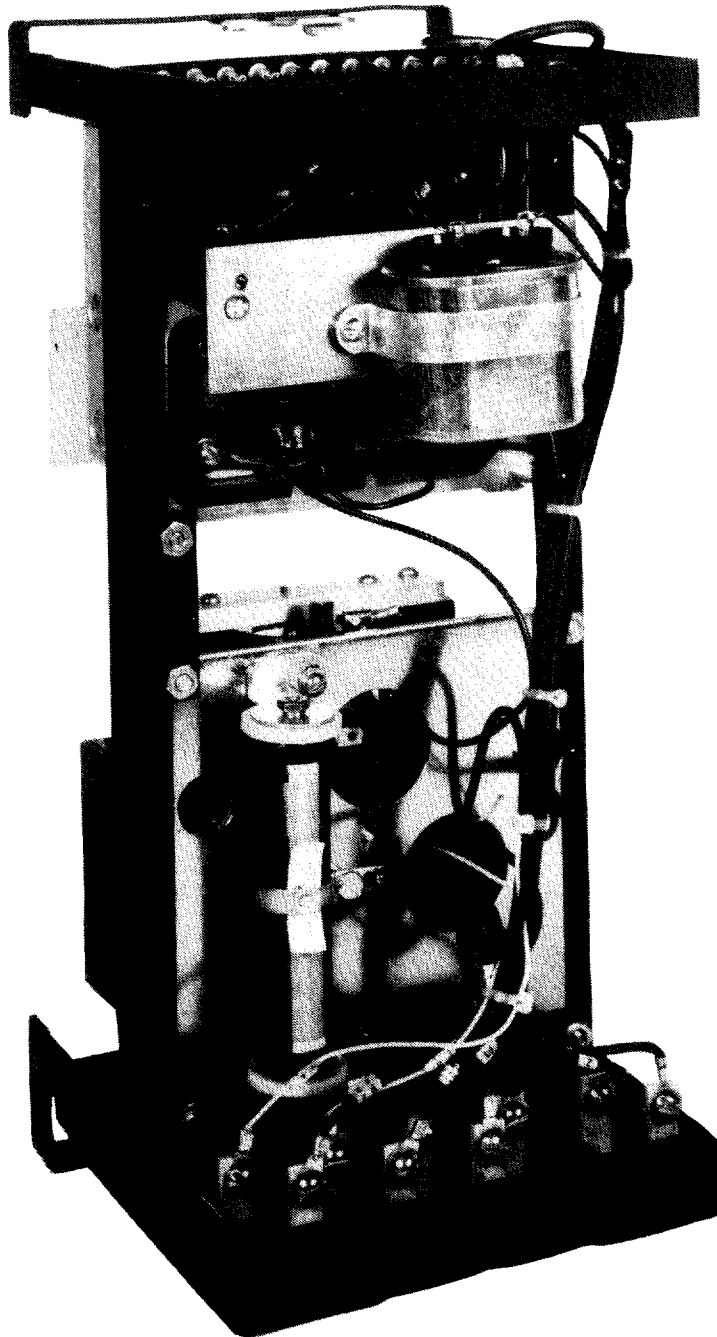

Figure 4 (8043465) Type IBCV77M Relay Removed from Case (Rear View)
- Figure 4 (8043465) Type IBCV77M Relay Removed from Case (Rear View)